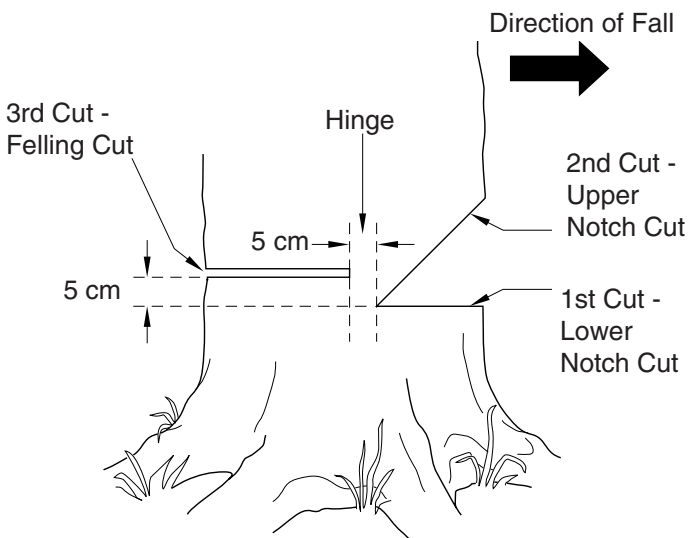

Figure 13 - Felling A Tree
A properly placed felling notch will determine direction tree will fall. Place felling notch on side of tree in direction you want tree to fall (see Figure 13). Follow directions below to create a felling notch.
1. Make lower notch cut as close to ground as possible. Hold saw so guide bar is horizontal. Cut 1/3 the diameter of tree trunk (see Figure 13). **Note:** Always make this horizontal lower notch cut first. If you make this cut second, tree can pinch chain or guide bar.
*Example:* If lower notch cut is 20 centimeters deep, start upper notch cut 20 centimeters above it. Cut downward at 45° angle. The upper notch cut should meet end of lower notch cut (see Figure 13).
1. Make felling cut five centimeters higher than lower notch cut and on opposite side of tree (see Figure 13). Keep felling cut parallel to lower notch cut.
Do not cut all the way through tree. Leave about five centimeters of tree diameter uncut directly behind felling notch (see Figure 13). This uncut portion acts as a hinge. The hinge helps keep tree from twisting and falling in wrong direction.